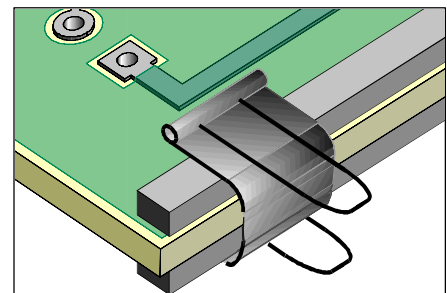

Figure 2: Clamp restraint bars to edge needing rework.
2. Place the restraint bars along the edges that require rework. (See Figure 2).